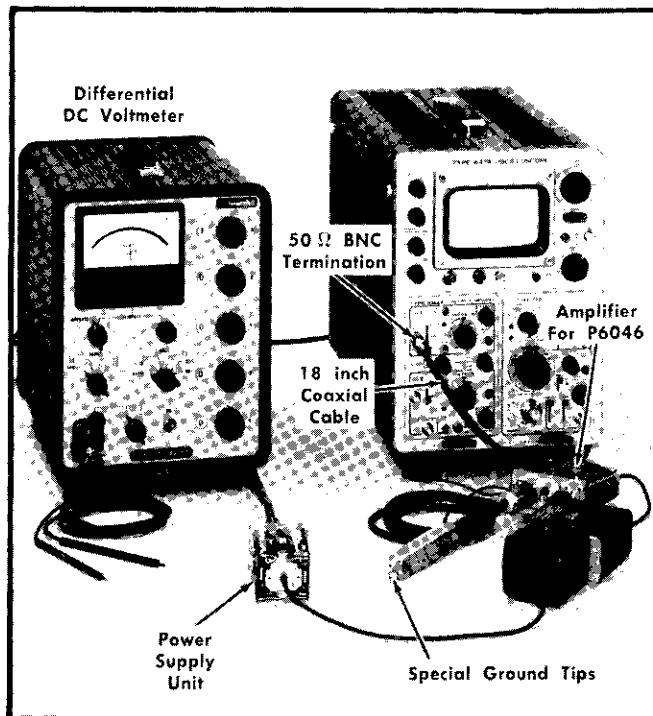

Fig. 6-22. Equipment setup for steps 2 through 4.
a. The equipment setup appears in Fig. 6-22.
a. The preliminary control settings apply. The equipment setup appears in Fig. 6-22.
c. Attach special ground tips (item 20) to the Probe's + and — tips.